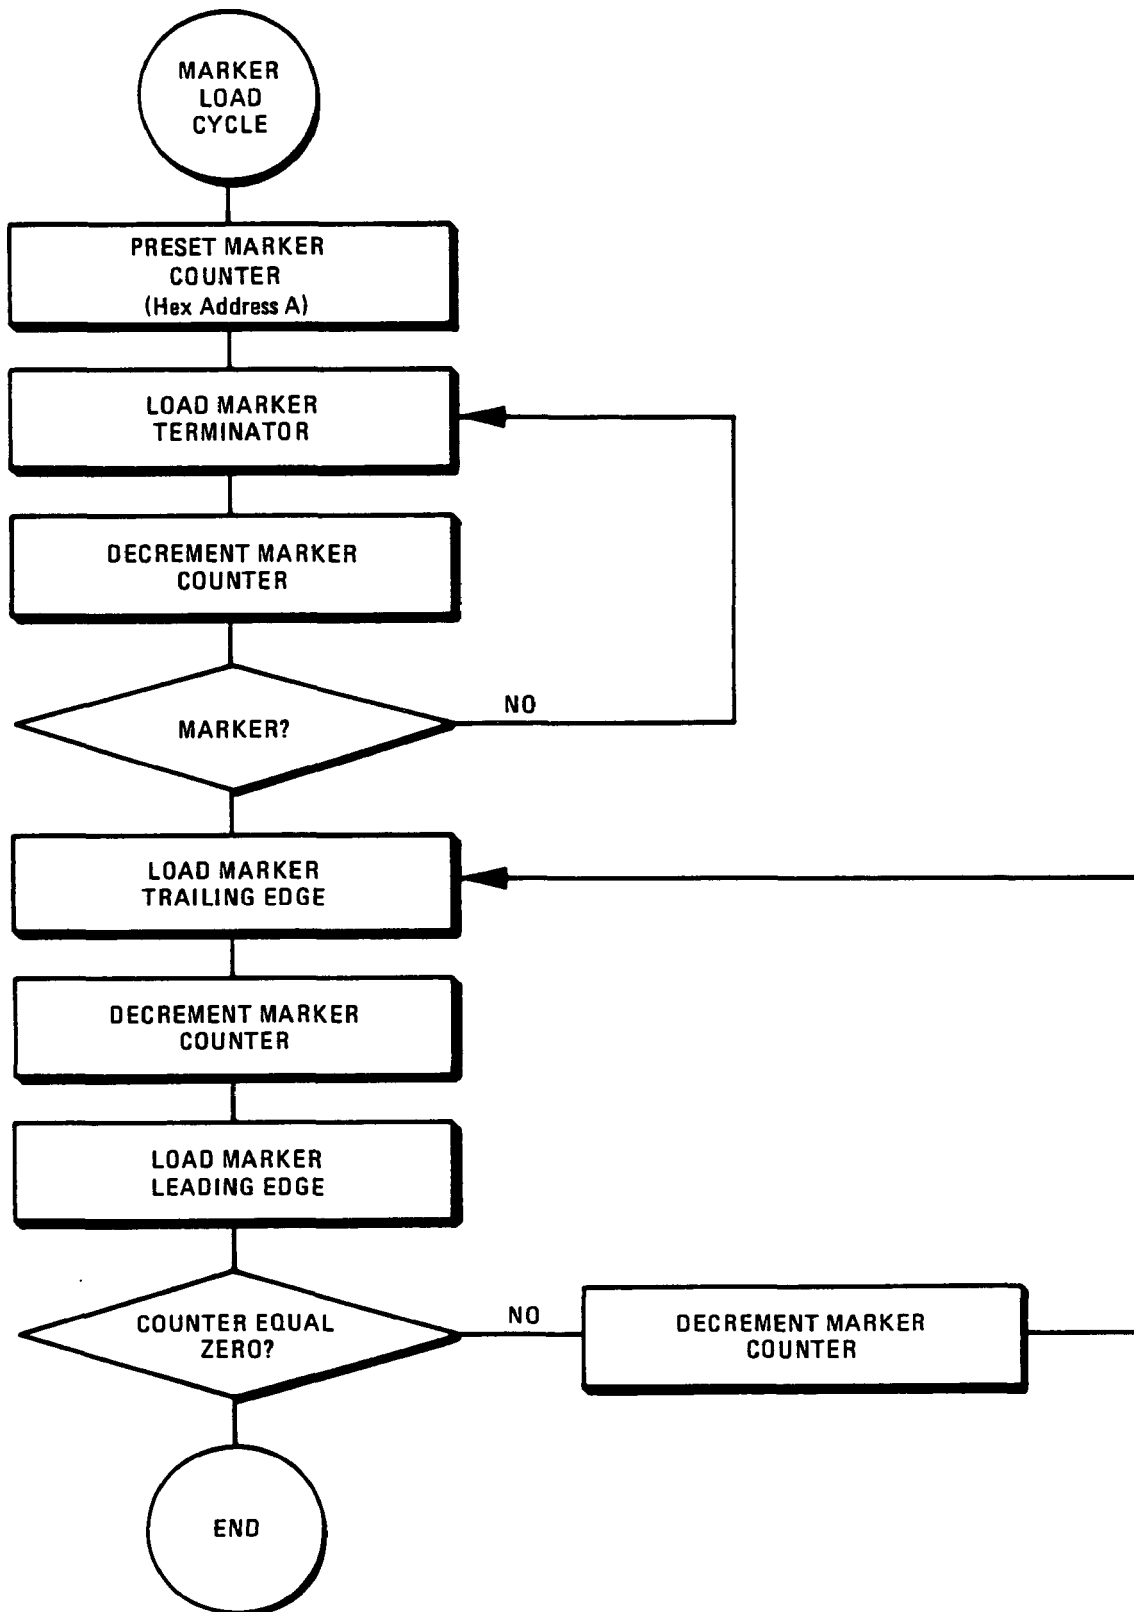

Figure 8-25. Marker Load Cycle, Flow Diagram
The A3 microprocessor writes the hexadecimal value A on instrument bus data lines D0 through D3. L EN6 is set low, then this value is loaded into marker counter U21. This value appears at the counter output and addresses marker RAM location A (hexadecimal). The A3 microprocessor then writes the marker terminator byte on the instrument bus data lines D0 through D7. With L EN7 now set low, the terminator byte is written to the marker RAM (hexadecimal 00 is loaded so that the RAM data output will be hexadecimal FF). L EN7 simultaneously decrements the marker counter U21 to address the next lower RAM address (9). The A3 microprocessor writes the value of the marker trailing edge for the highest frequency marker on the instrument bus data lines D0 through D7. The low L EN7 value is then stored in RAM location nine. The marker counter output is decremented by one, and the microprocessor writes the leading edge of the highest frequency marker into RAM location eight. The cycle continues until the trailing and leading edges for all five markers are loaded into RAM. The microprocessor then presets the marker counter to zero for the start of sweep. Refer to Figure 8-25 for the RAM loading diagram.